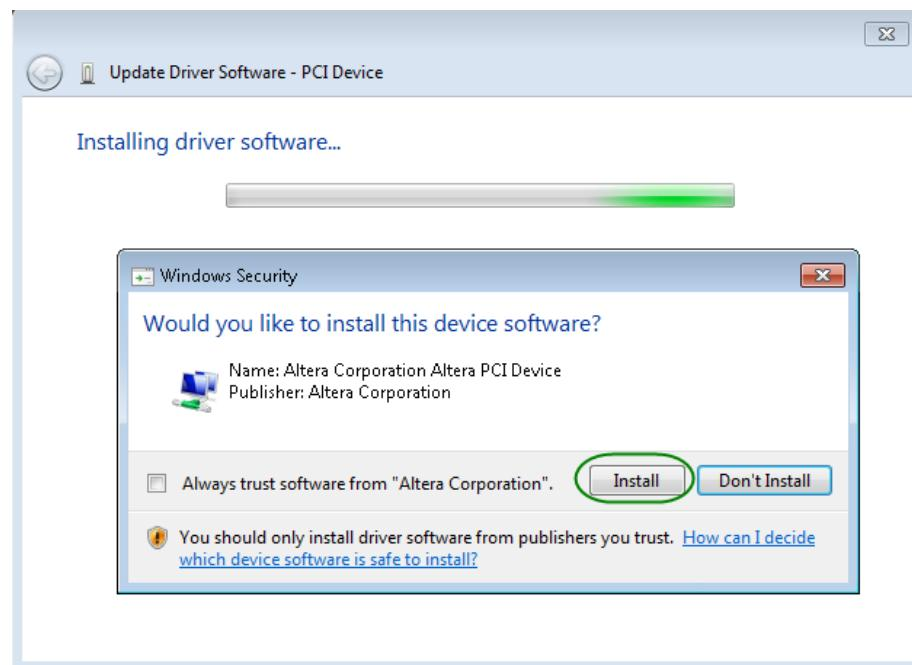

Figure 7-7 Click Install in the dialog of Windows Security
10. When the **Windows Security** dialog appears, as shown Figure 7-7, click the **Install** button.